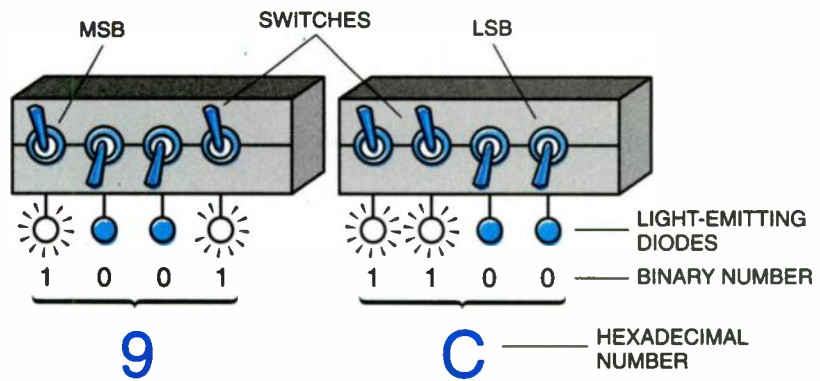

Figure 1-14. Switches control LEDs to represent hex numbers in binary code.
Groups of four LEDs can be used to represent binary numbers that can be read as hexadecimal numbers. The conditions are: when an LED is ON, it represents a HIGH or 1 condition; when it is off, it represents a LOW or 0. The LEDs in *Figure 1-14* represent two hex numbers that can be changed by their corresponding switches. Example 11 shows how the switches can be used to represent (encode) hex numbers or ASCII characters.
**A:** What are the hexadecimal numbers represented by the LEDs if the switches in Figure 1-14 are in the following states? Use Figure 1-9 to help you.